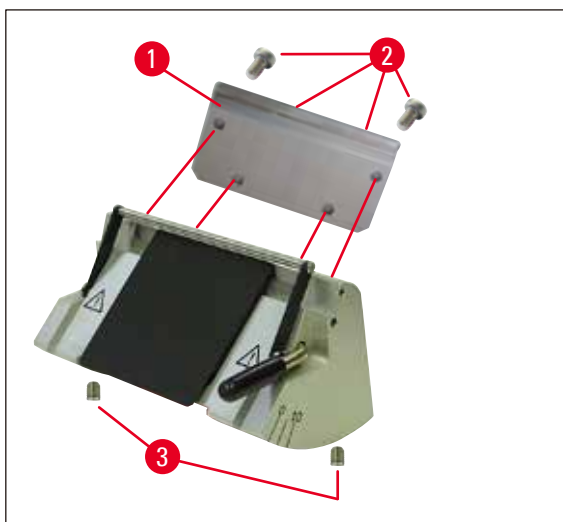
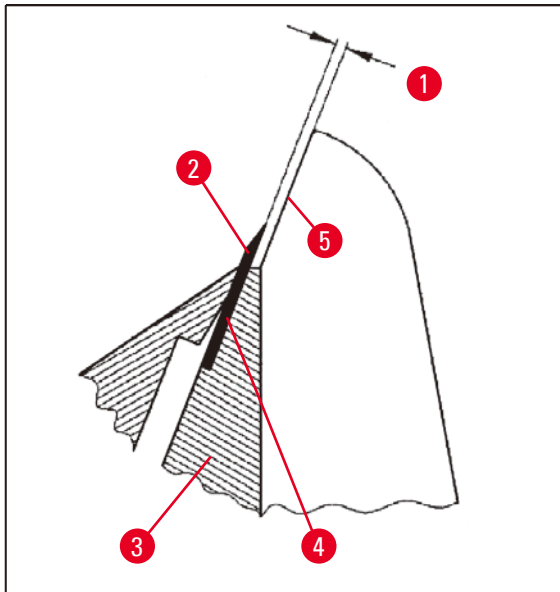

Fig. 34
Fig. 35
- When performing the installation, make sure that the upper edge of the pressure plate (→ Fig. 40-4) is parallel and level with the upper edge of the rear pressure plate (→ Fig. 40-2) (see also (→ p. 44 – Fig. 34), (→ p. 45 – Fig. 35)). If necessary, adjust the pressure plates (→ p. 48 – 5.9.10 Overview – accessories).